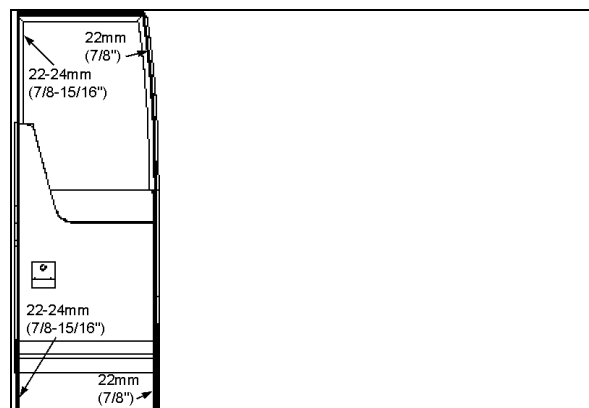

FIGURE 28: SEAL COMPRESSION ADJUSTMENT
- From the outside of vehicle, insert a straight edge in the gap along the door outside perimeter. Measure the distance between the door frame and the door outside surface at the door four corners (refer to Figure 28).